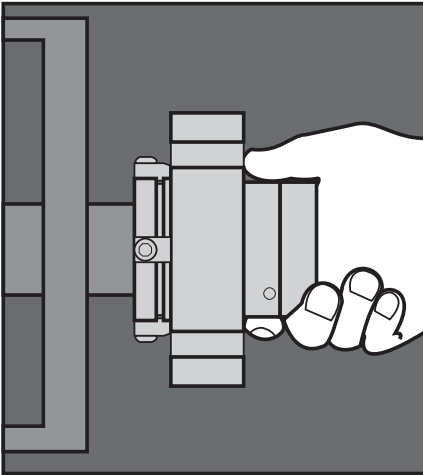

Figure 3
2.3 **Install the complete P-50** cartridge assembly onto the shaft or sleeve with the setting devices near the bearing housing. See Figure 3.